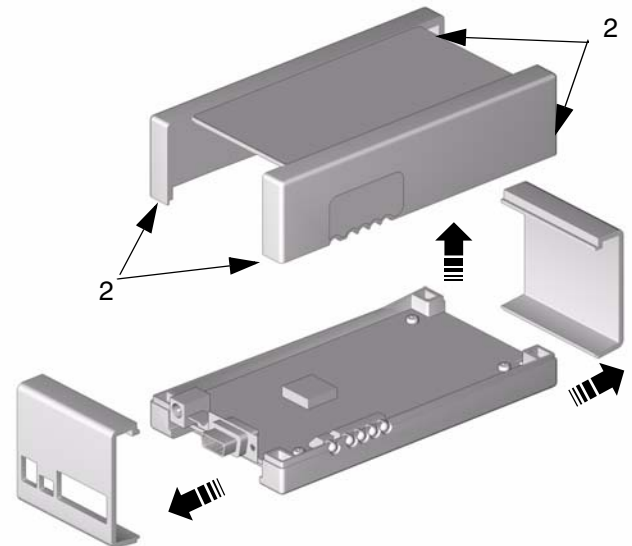

FIG. 8
1. Using a small screwdriver, push on the snap-locks (2) on one end of the Transceiver. See FIG. 8.